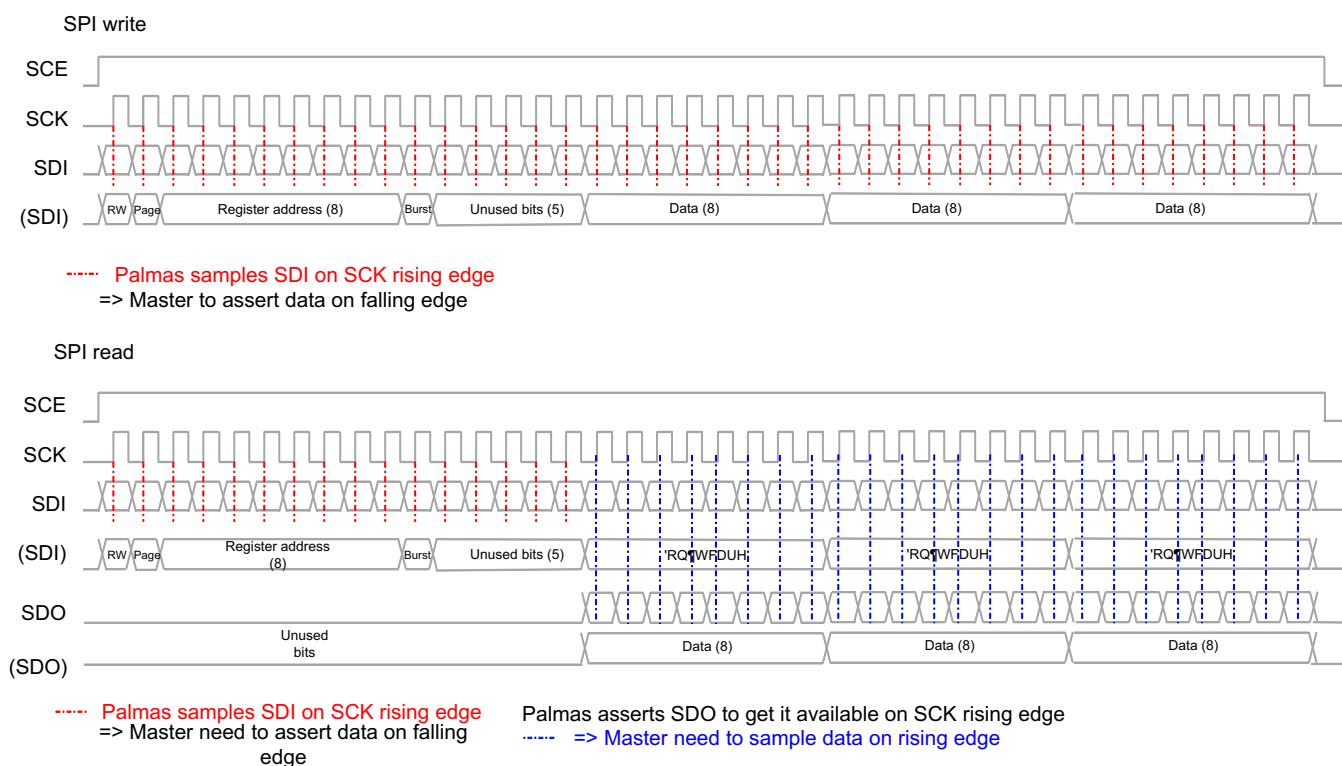

图 6-16. SPI Burst Read and Write Access
- This consists of fetching and storing several data at contiguous locations. The protocol is depicted in 图 6-16.